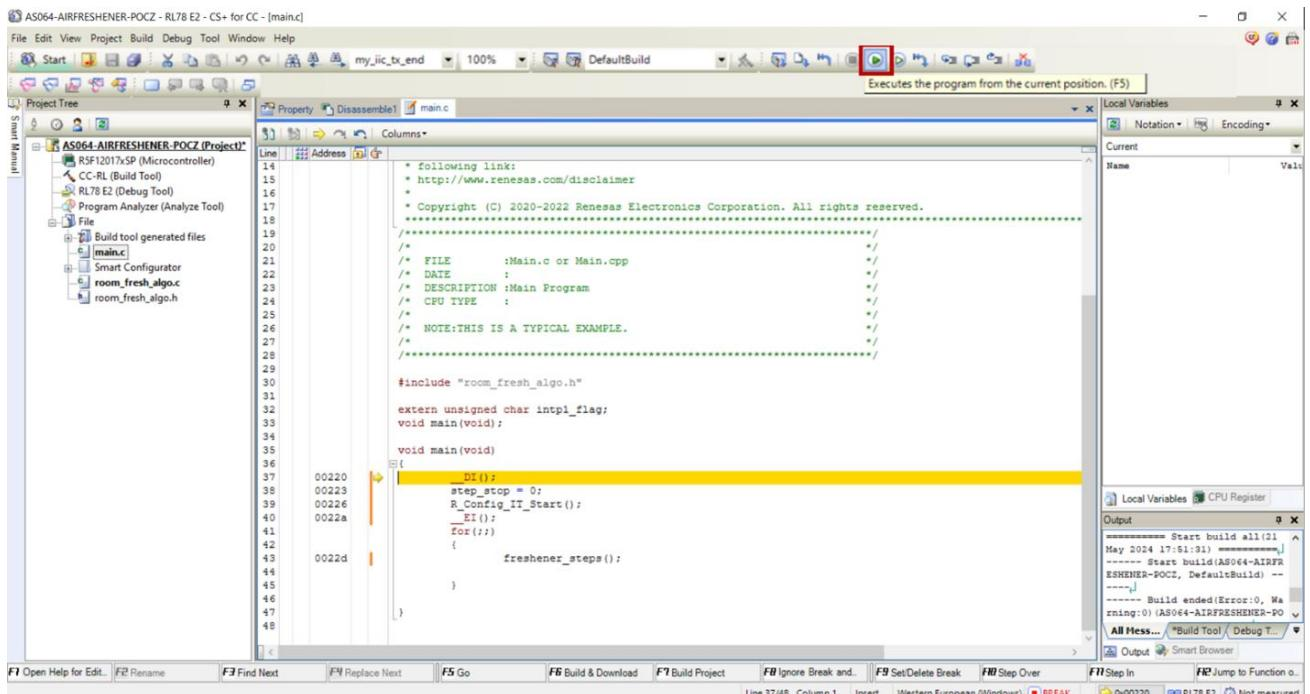

Figure 13: Execute the Program
- Once the download is completed click on Execute command as highlighted in Figure:13.